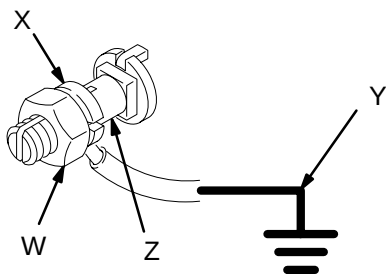

Fig. 2
- **Pump:** Loosen the grounding lug locknut (W) and washer (X). Insert one end of a 12 ga (1.5 mm²) minimum ground wire (Y) into the slot in lug (Z) and tighten the locknut securely. Connect the other end of the ground wire to a true earth ground. See Fig 2. To order a ground wire and clamp, order Part No. 222011.